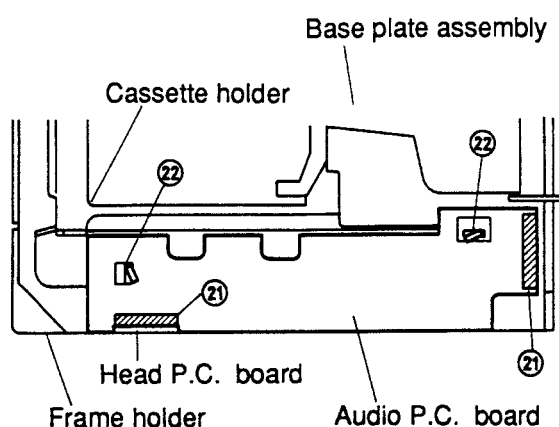

Figure 16
- (1) Remove two solders ⑳ and remove the parallel wire (7P) and the head PC board as shown in Figure 16.
- (2) Adjust the two claws ㉒ to the rectangular holes on the PC board and remove the PC board as shown in Figure 16.
- (3) After replacement, mount the new PC board following the removal steps in the reverse order.